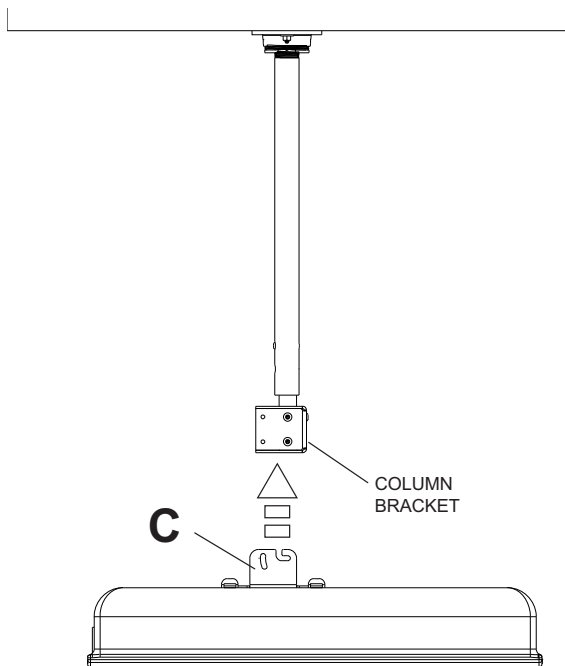
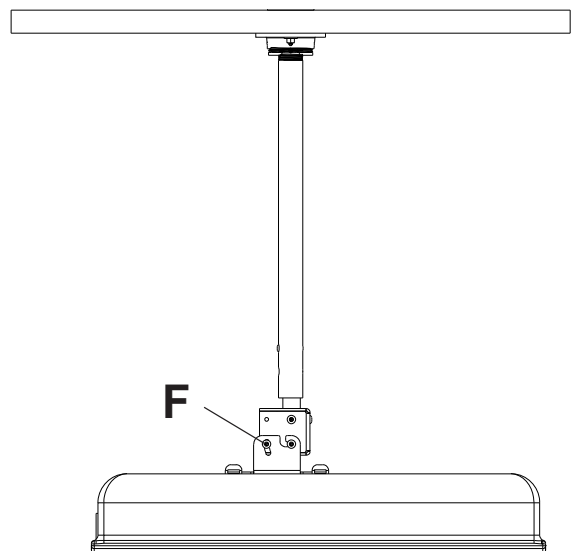

fig. 6-1
fig. 6-2
- 6** Hook tilt bracket (C) onto column bracket (see figure 6-1). Secure with two M5 screws (F) (see figure 6-2). Adjust tilt (20° forward and 5° back) and swivel to desired position. Tighten all screws using security allen wrench (G).